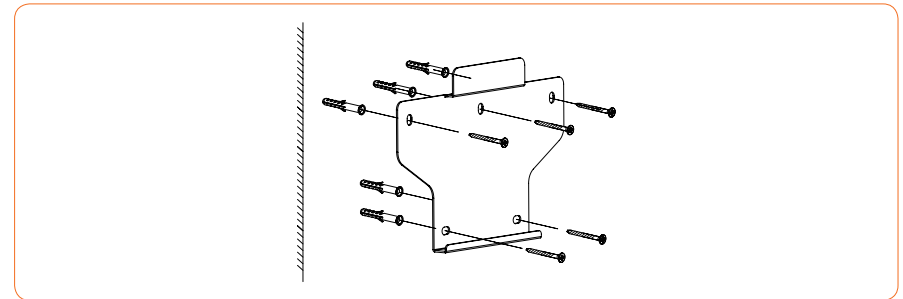

Figure 4-6 Fixing the wall bracket
③ Insert the expansion tubes into the holes and tighten them, then fix the bracket onto the wall with expansion screws by using a cross screwdriver, as shown in Figure 4-6: